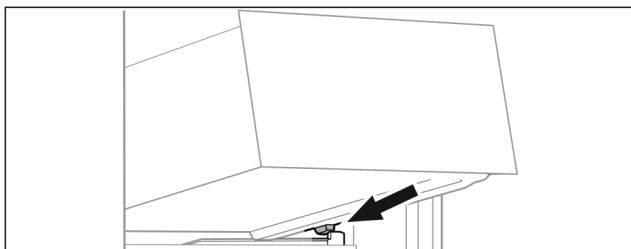

Fig. 84
- Place drawer at an angle behind the stoppers on the moulded rib. (see Fig. 84)